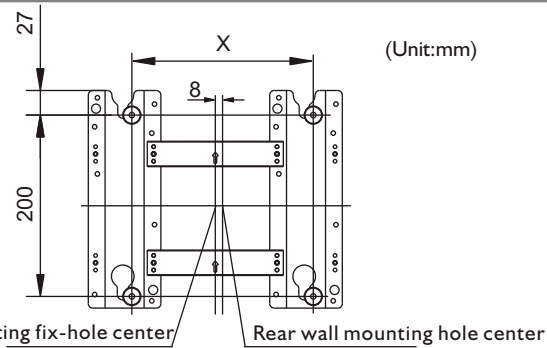

Fig. 2
2. Due to the wall mounting fix-groove leaning to the right side, the whole unit will lean to right side after installation, please carefully measure the position of the holes you want to drill, refer to the parameters on Fig.2 when drilling the holes.
Note: The "X" in Fig.2 represents a data. It may be 200mm or 400mm or 600mm.